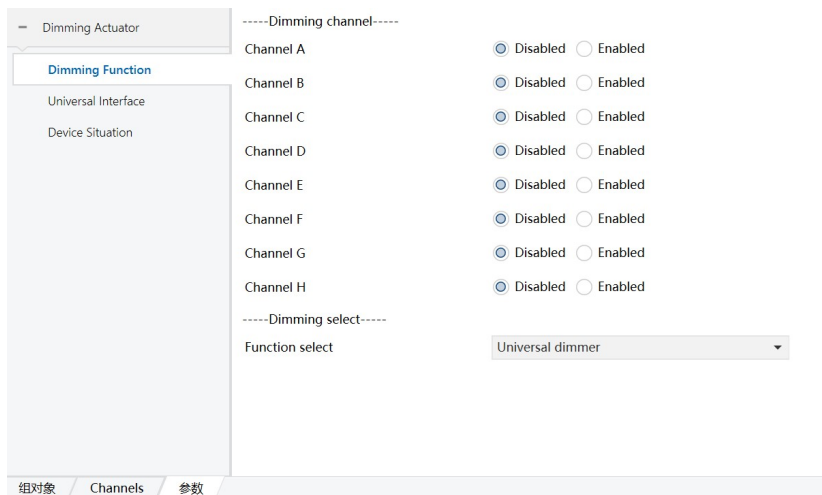

Figure 6.1.1
1) Open the curtain actuator (MD Series) parameter setting interface in ETS5, as shown in Figure 6.1.1. The parameter "Channel X" indicates the output of the corresponding channel.